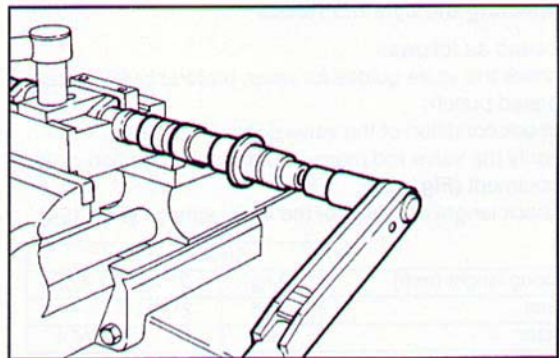

Fig. 190 ▲
- apply some Loctite 971 and screw on the front and rear studs, tightening to a torque of 7 kgm (**Figs. 190 and 191**);